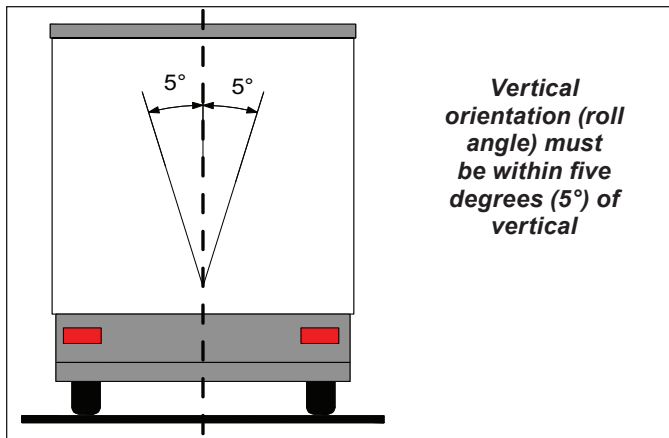

Figure 14 – Installation on Trailer (Vertical)
1. The TABS-8 Advanced Module must be installed with the following considerations (See *Figures 14 through 16*):